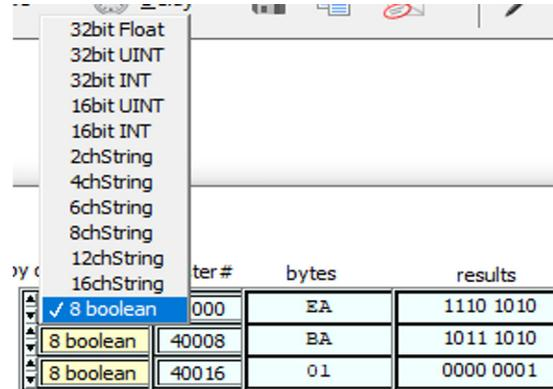

Figure 45.2.
- In the Copy Down cell, change the input to 8 boolean. See Figure 45.2.